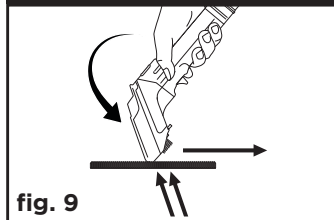

fig. 9
2. For wet stains, use a stain eliminator hand tool to suction up the mess (**fig. 9**).
- a. Tilt the tool up (**fig. 9**).
**Tip:** For improved suction, tilt the angle of the tool forward, apply pressure, and drag back slowly (**fig. 9**). More extracted liquid will appear in the window on the tool as suction increases.